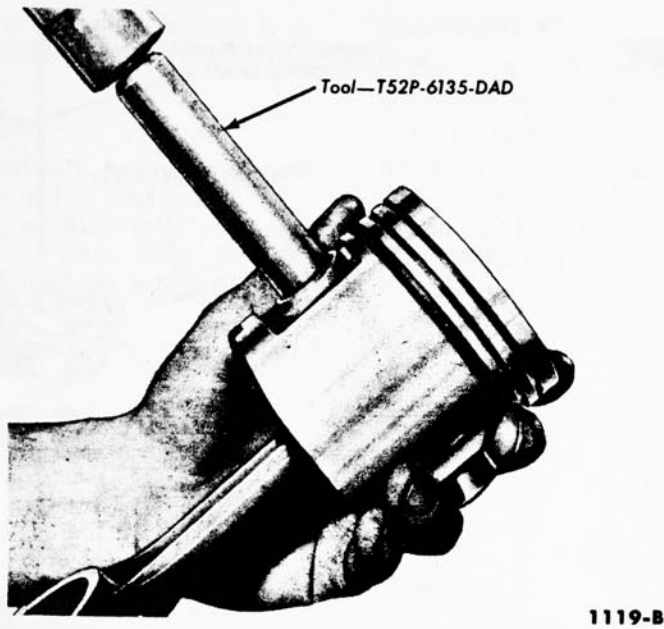

FIG. 28—Piston Pin Removal
2. Remove the piston rings. Remove the piston pin retainers, then drive the pin out of the piston and connecting rod (Fig. 28). Discard the retainers.